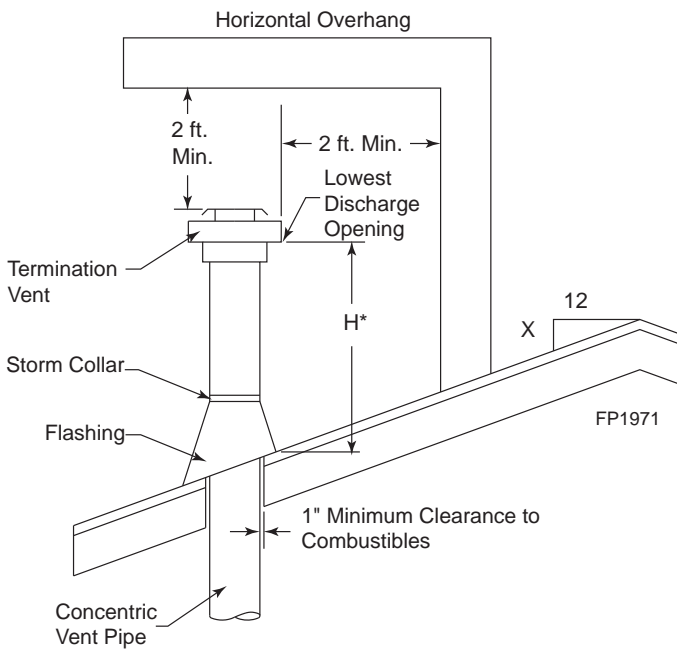

**Figure 48 –
- 7DVCS supports offsets. *Figure 48*. This application will require that you first determine the roof pitch and use the appropriate starter kit. (Refer to Venting Components List)
7. Install roof support (*Figure 48*) and roof flashing making sure upper flange is below the shingles. *Figure 50*
8. Install appropriate pipe sections until the venting is above the flashing. *Figure 48*